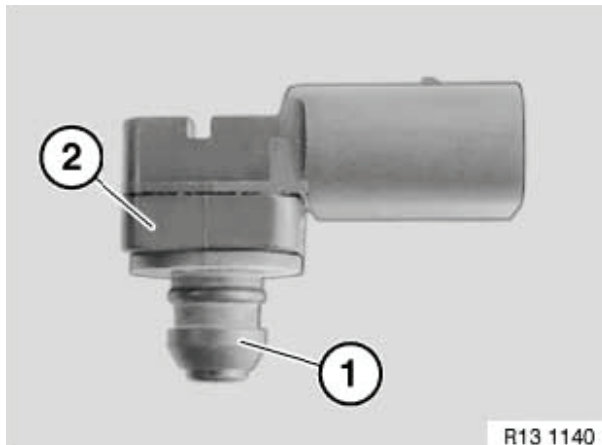

Figure 12-26
4. Install new sealing ring (**Figure 12-26, (1)**) before installing sensor (**Figure 12-26, (2)**).